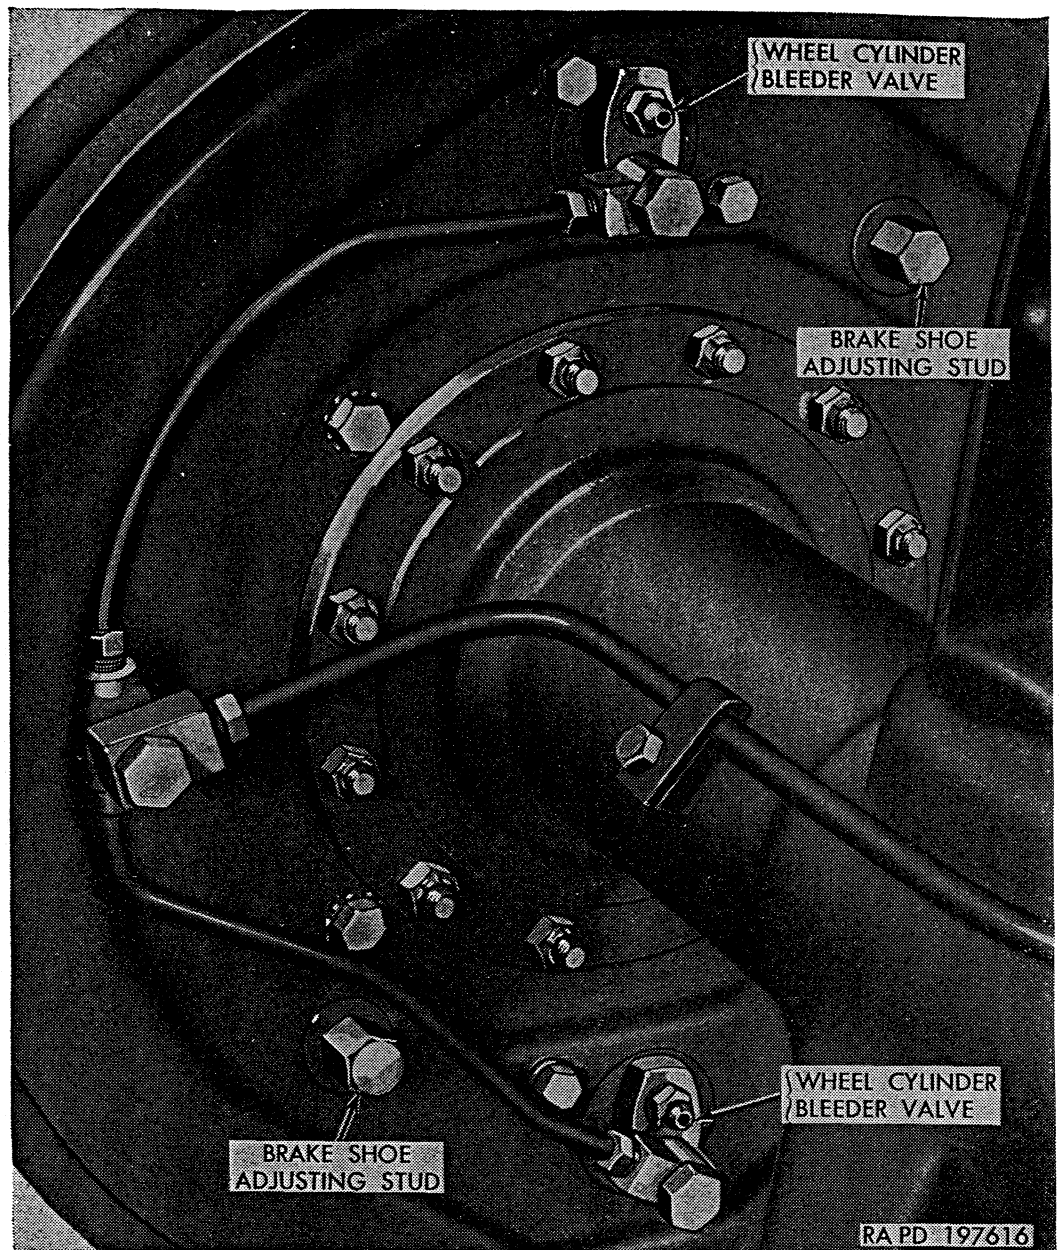

Figure 244. Brake bleeder valves and adjusting studs (rear wheel shown).
*a. General.* Master cylinder filler cap is accessible through inspection hole in left side of floor pan after removing inspection hole cover. Air-hydraulic cylinder bleeder valves are accessible from under vehicle and wheel cylinder bleeder valves are accessible at inner side of backing plate at each wheel (fig. 244). Bleeding brake system may be accomplished by one of two methods, pressure or manual. Engine must not be running and all air pressure must be exhausted from the air system before bleeding brakes.
- (1) Clean dirt from around master cylinder cap. Unscrew bolt securing filler cap and vent line fitting to master cylinder filler pipe. Swing vent line and filler cap to one side. Bolt will remain in filler cap and fitting.
- (2) Make sure pressure bleeding tank contains sufficient hydraulic brake fluid and is properly charged with air pressure. Connect pressure tank to master cylinder filler pipe, bleeding all air from hose before tightening the connection.
- (3) Bleed air-hydraulic cylinder first. Slip end of bleeder hose over bleeder valve at top of air-hydraulic cylinder control valve and place other end in a glass jar containing sufficient hydraulic brake fluid to cover end of hose. Open bleeder valve and observe flow of fluid from end of hose. Close bleeder valve as soon as bubbles stop and fluid flows in a solid stream. Repeat this procedure at bleeder valve on top of slave cylinder end fitting.
- (4) Bleed both bleeder valves at each wheel (fig. 244), following same procedure used at air-hydraulic cylinder ((3) above). Make sure each bleeder valve is closed tightly after bleeding.
- (5) Disconnect bleeder tank hose from master cylinder filler pipe. Install filler cap and vent line fitting, tightening attaching bolt to a maximum of 30 pound-feet torque. Install cover plug in inspection hole in floor pan.
*a. General.* Brake adjustments to compensate for normal lining wear are made at the brake shoes. These adjustments should be made before the brake pedal reserve travel becomes less than 2 inches. Adjustments (fig. 244) are made by turning adjusting pinion studs at inner side of backing plates. Always check wheel bearing adjustment and adjust if necessary (par. 265) before adjusting brakes. Do not adjust brake shoes while brake drums are hot.